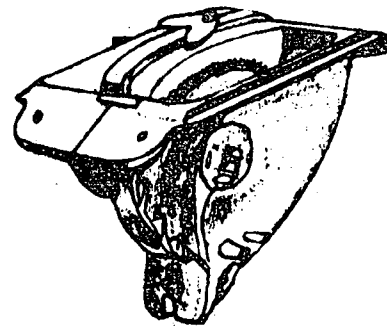

Fig. 1
*Double-run feeding mechanism.* It can be used for sowing large seeds like bean or corn, and small ones like alfalfa or clover. The bottom of the hopper has cups; one for each coulter. The cups are divided into two parts forming two channels for seeds (Fig. 1).